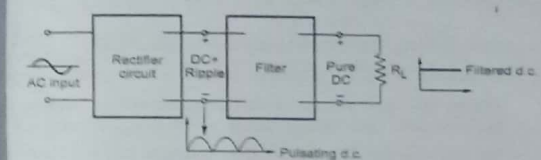

Fig. Q.29.1 Rectifier and filter
- The filter circuits are connected between the rectifier and load, as shown in the Fig. Q.29.1.